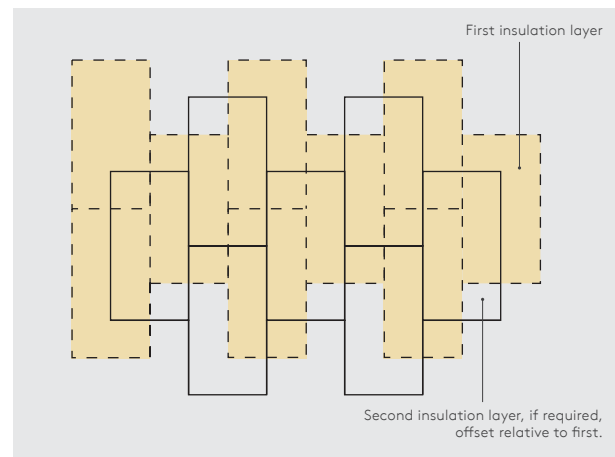

Figure 6 - Offsetting of multiple insulation layers
- In all cases, the layers should be horizontally offset relative to each other so that, as far as possible, the board joints in the two adjacent layers do not coincide with each other (see Figure 6).